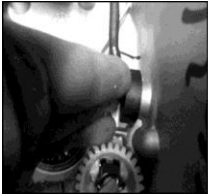

Fig. 8
- a. Insert the seal into the mounting hole on the crankcase (Fig. 8)